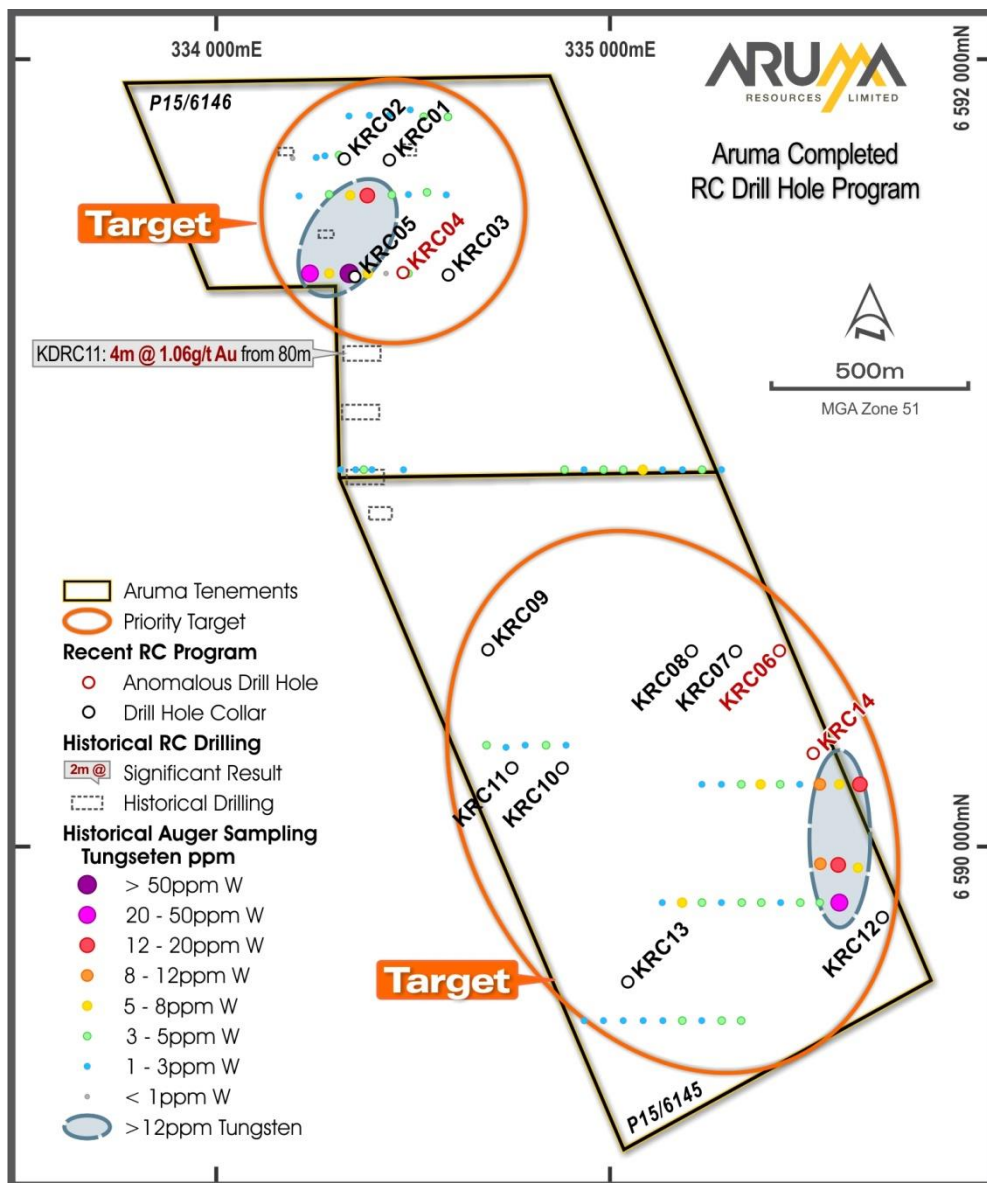

Figure 2. The location of completed drilling with tungsten geochemistry
The drill program at Kopai consisted of 14 Reverse Circulation (RC) holes for a total of 1,947 metres (with drilling depths to around 150 metres), targeting a 2.8km strike length on the Strzelecki Trend. Drilling was designed to test for gold anomalism in historic auger holes at the Project (Figure 2).